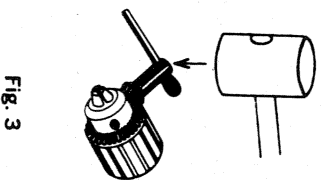

Fig. 3
- 1) For geared chucks which are threaded directly on or into the drill (type of chuck usually used on  $\frac{1}{4}$ " and some  $\frac{1}{2}$ " drills), use the following method: Place the chuck key in the chuck. Using a hammer or other similar object, strike the key sharply in the same direction that the tool normally runs. (See Fig. 3). This will loosen the chuck so that it can be unscrewed by hand.